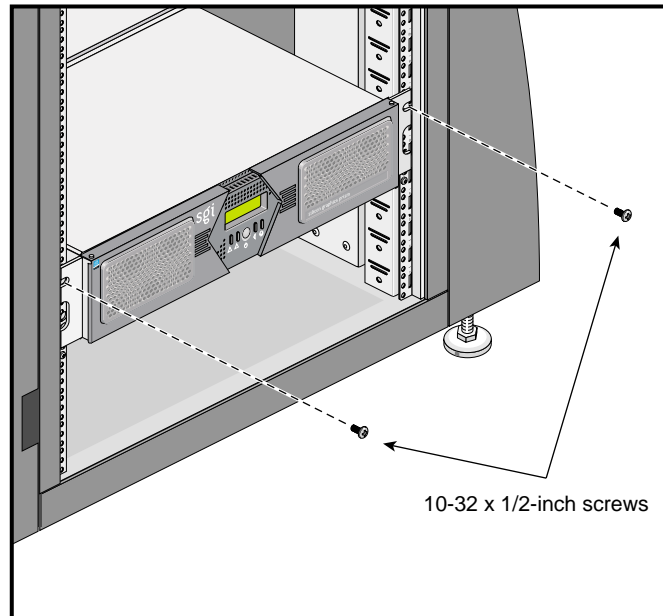

Figure B-9 Securing the Module to the Rack
- Secure the module to the rack by inserting a 10-32 x 1/2-inch Phillips screw in the top hole of each chassis ear (see Figure B-9).
Caution: Do not lift the module by its bezel; it is not designed to handle the weight of the module. Instead, use the chassis ears to move the module (see Figure B-9).